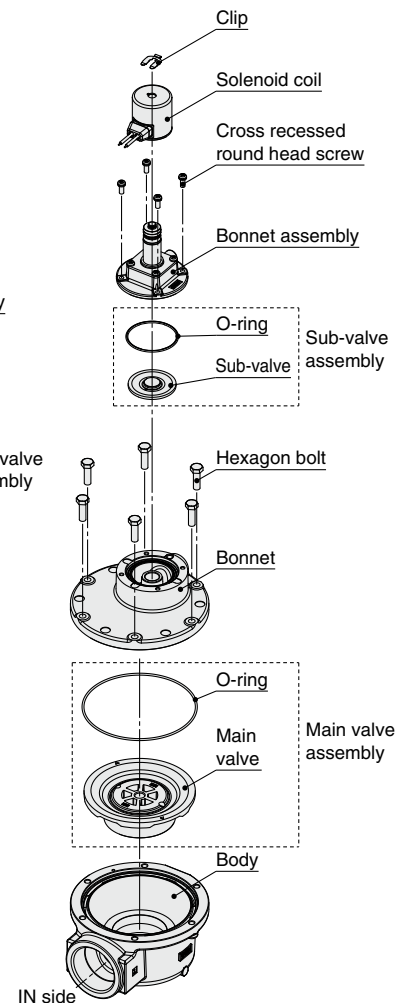

Fig. 2 O-ring position
- Mount the O-ring to the body groove. (See Fig. 2.) After mounting the O-ring, check to make sure that the O-ring is fitted properly into the groove. If it is not in the groove, external leakage and/or operation failure may occur.